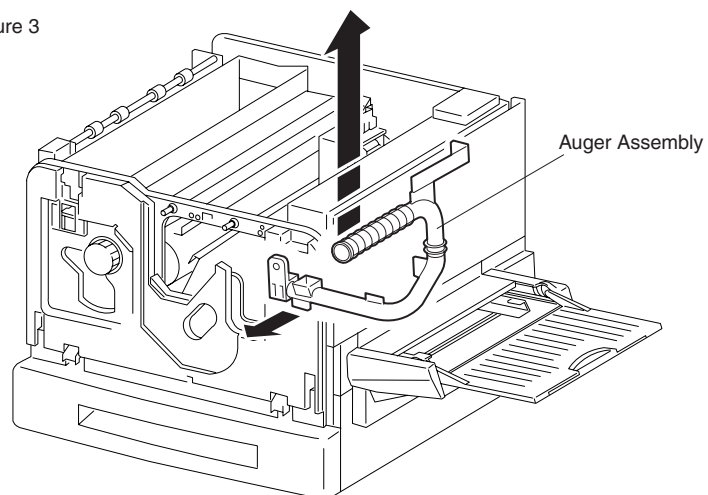

Figure 4
8. Swing the bottom of the Auger Assembly out, then slide the Auger Assembly down and remove the Assembly from the printer (Figure 4).
1. Reinstall the Auger Assembly onto the printer (Figure 4).